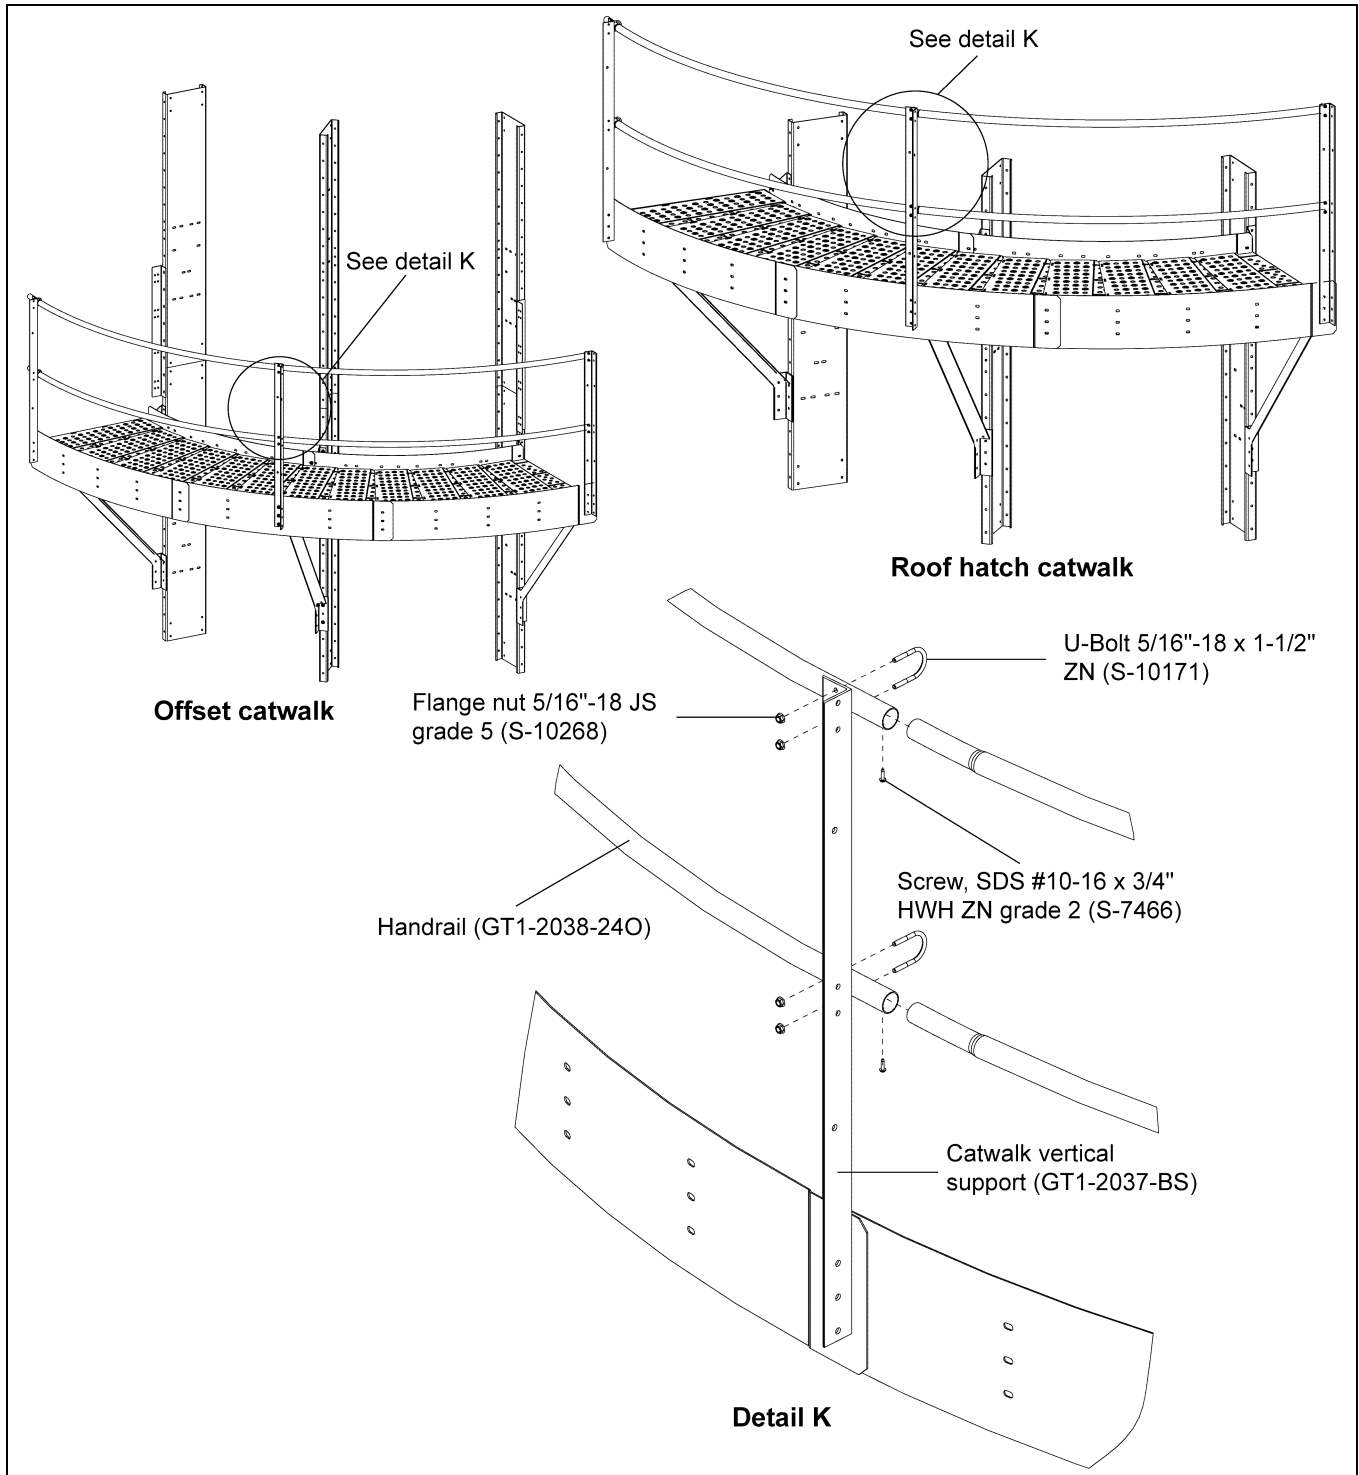

Figure 6U Handrail (GT1-2038-24O) Installation for Offset and Roof Hatch Catwalks
1. Install the long handrail (GT1-2038-24O) to the catwalk vertical support (GT1-2037-BS) using 5/16"-18 ZN U-bolts (S-10171) and 5/16"-18 JS grade 5 nuts (S-10268) to tighten the handrail with vertical post. (See Figure 6U.)
2. Use the self-tapping screws SDS #10-16 x 3/4" HWH ZN grade 2 (S-7466) at all handrail pipe joints. (See Figure 6U.)